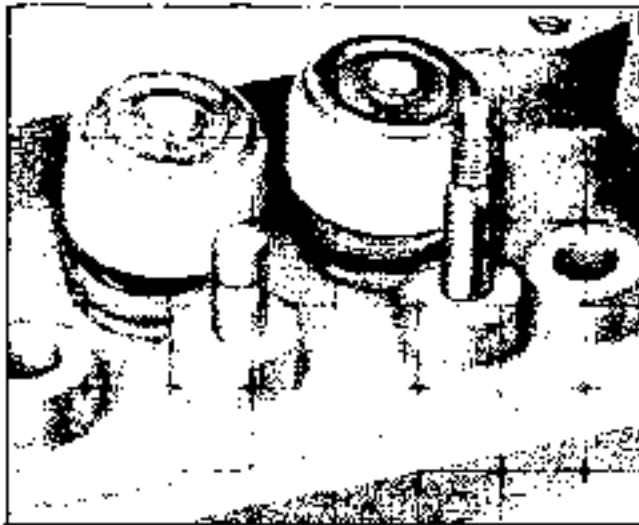

Fig. 6-87 Slots Filled in Rocker Arm Stud
4. With rocker arm removed, file two slots $3/32$ " to $1/8$ " deep on opposite sides of rocker arm stud (Fig. 6-87). Top of slots should be $1/4$ " to $3/8$ " below thread travel.